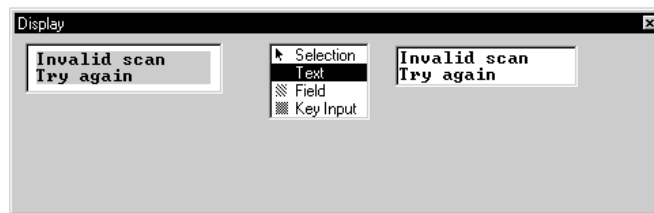

Figure 4-28 Display Window - Text Entered
30. Press <Enter> to accept the text entry (Figure 4-28). The entered text appears in the display area at the left of the **Display** window.